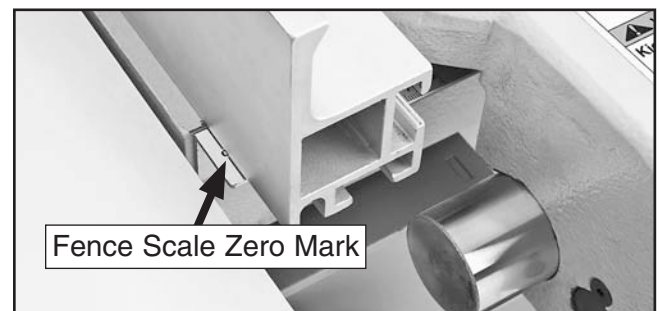

Figure 129. Rip fence scale zero mark.
3. Observe the reading on the scale underneath the rip fence (see **Figure 129**).